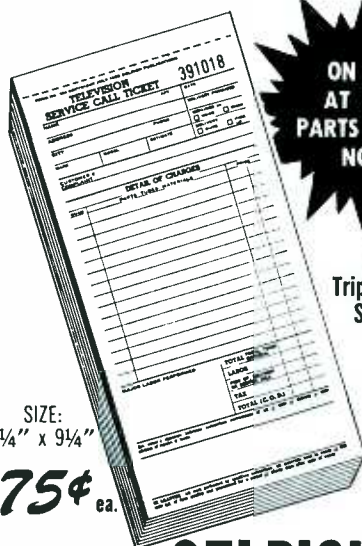

Fig. 9. Example of test-bench setup for industrial servicing.
*Test Bench*—The most important aim of an industrial troubleshooting service is to get a customer's electronic system back into operation at the earliest possible moment. To expedite service, it is a good idea to obtain spare units for equipment owned by steady customers (especially those with service contracts). Then, when trouble strikes, you can simply isolate the trouble to a particular subassembly and replace this whole section. The defective unit may be repaired later in your shop, where you are not so pressed for time and you can enjoy the convenience of a well-planned test setup. One example of a test bench setup is illustrated in Fig. 9. General Radio power supplies furnish voltages for the subassembly, and the generators (General Radio) provide the input signals for signal-tracing equipment with the Tektronix oscilloscope. ▲